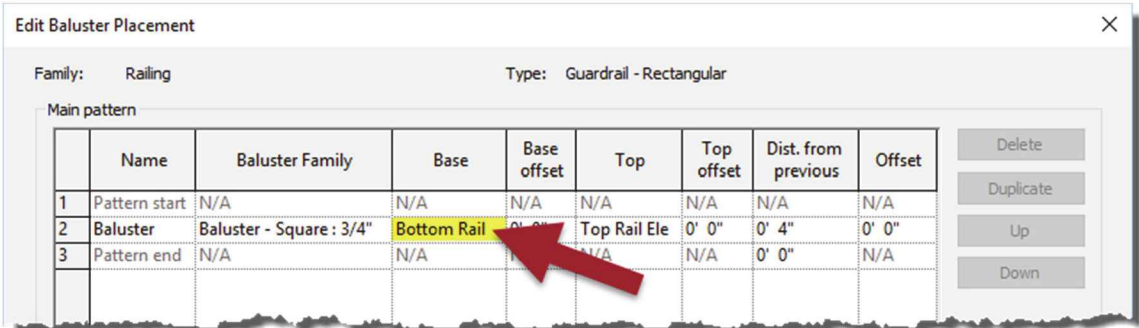

FIGURE 7-8.15 Edit Baluster Placement dialog; changing main pattern to start at new horizontal rail
27. While still in the *Edit Baluster Placement* dialog, in the *Main Pattern* section, change the **Base** option to **Bottom Rail** via the drop-down list (Figure 7-8.15).